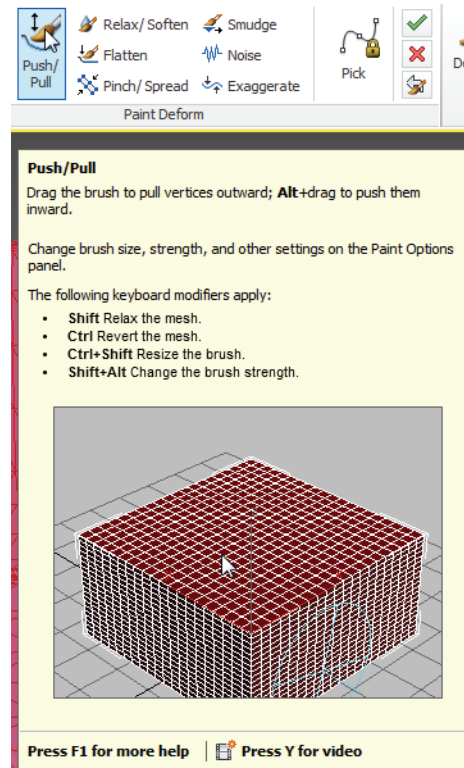

Figure 3–77
5. Use Push/Pull to create a cushion for sitting. Drag the brush to pull the vertices outward and hold down <Alt> to push them in. When you start this command, a Paint Options panel is displayed on the screen, in which you can change the brush size and the brush strength, as shown in Figure 3–78.